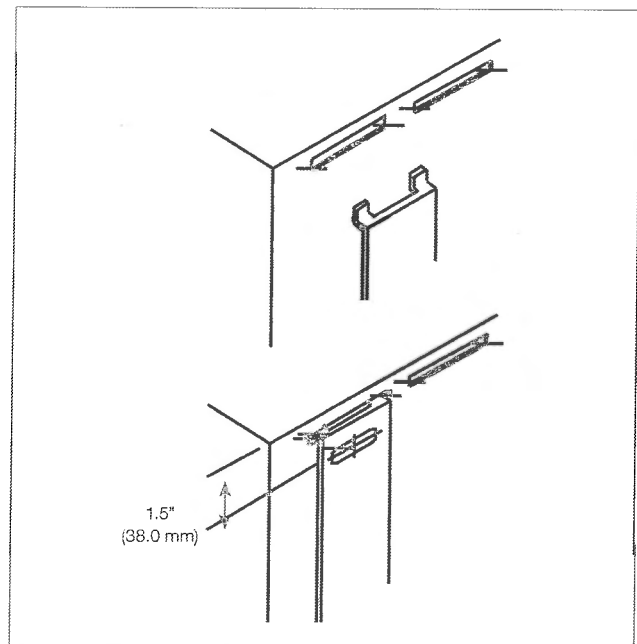

Figure 1
- 2.3 Secure mounting brackets to vertical surface with the top mounting hole 1.5" (38 mm) below the desired top surface height (Figure 1, page 4). Refer to Figure 3, page 5, Figure 4 and Figure 5, page 4 for physical dimensions and Figure 5, page 6 for required installation clearances. Mounting brackets are to be spaced to match the slots in the rear panel of heater cabinet.